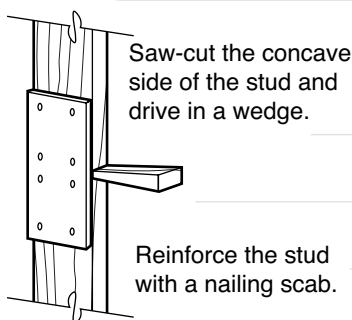

FIGURE 12
- Straighten bowed studs (crowns) by saw-cutting the concave or hollow sides and driving in wedges; provide nailing scabs to reinforce the cut stud (see Figure 12).